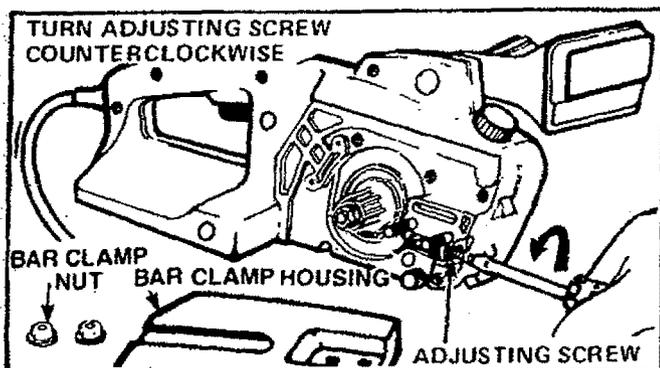

Figure 8
2. Turn the Adjusting Screw counterclockwise to move the Adjusting Pin almost as far as it will go to the rear. Figure 8.